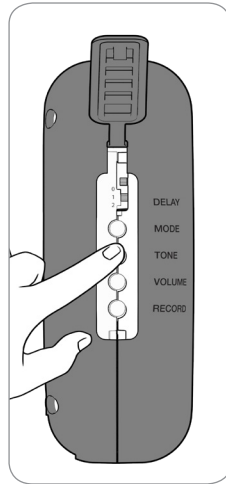

Fig. 6
3. Press TONE button on left side of alarm to scroll through the tone selections (Fig. 6).